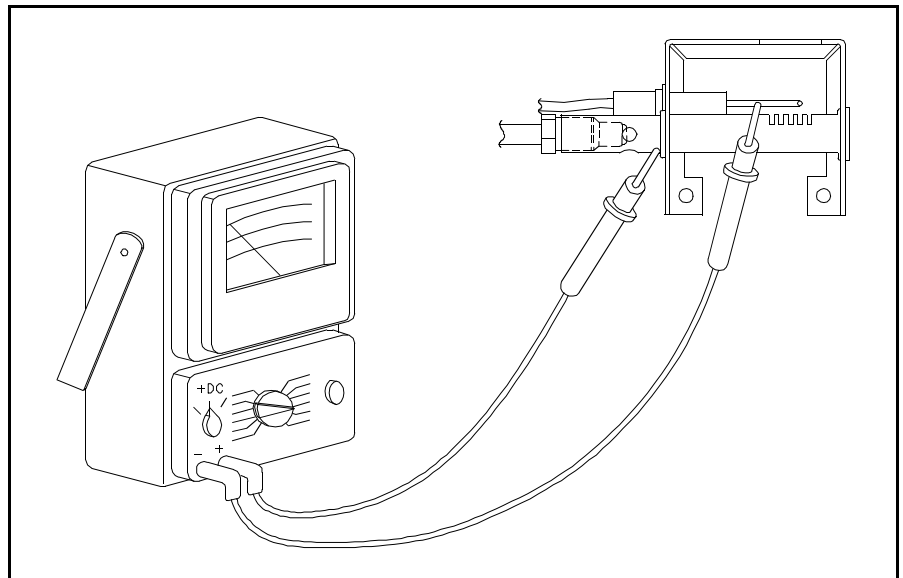

Figure 11.49 Electrode Grounding Check
26. Check the Ignition electrode shown in Figure 11.49 for a short to ground.
- D. Check the continuity to ground as shown in Figure 11.49.
28. Check that the Burner and Orifice shown in Figure 11.49 are not obstructed.